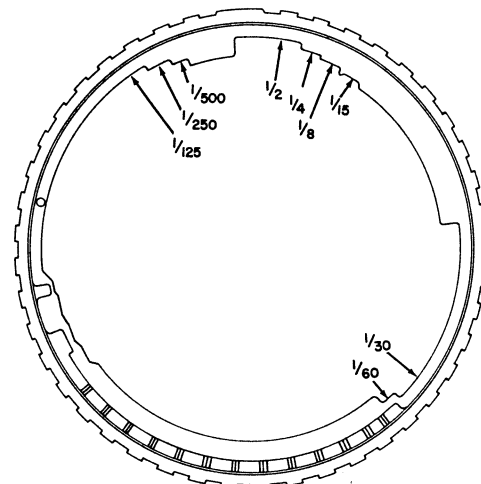

Figure 20.
- b. Slow - Change to lighter weight or pallet. If speeds have not been brought within tolerance after the initial adjustment, make the following adjustment to the timing cam assembly (Figure 20).